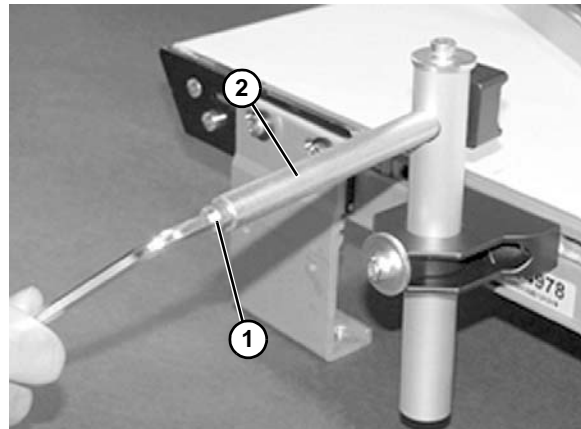
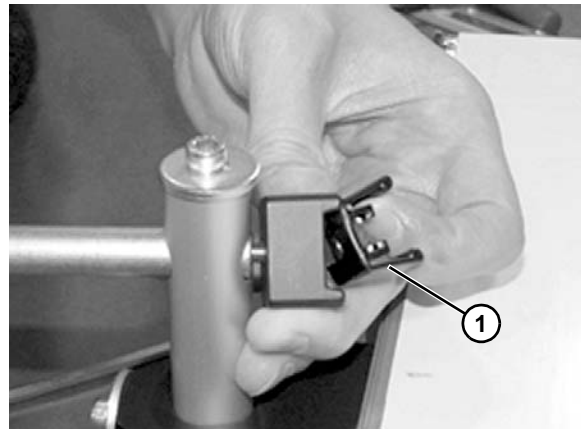
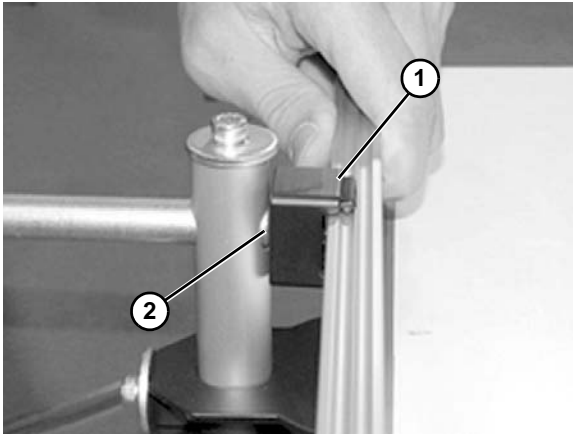

Figure 69
Figure 70
Figure 72
3. Loosen screw (**Figure 69, item 1**) on end of shaft (**Figure 69, item 2**) to remove clip (**Figure 70, item 1**).
5. Reassemble clip (**Figure 72, item 1**) and attach to shaft (**Figure 72, item 2**). Tighten screw (**Figure 69, item 1**) on end of shaft.